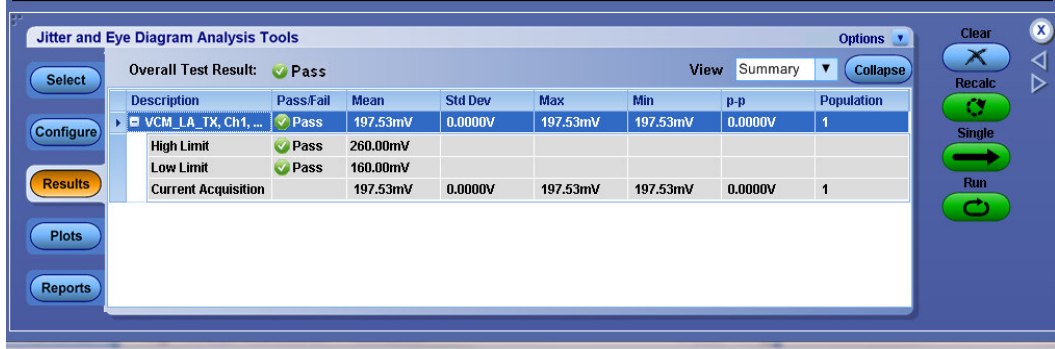

Figure 9: LA Common Mode Output Voltage
3. Click on **Single Run** and verify the result as shown below in Figure 9 and Figure 10.